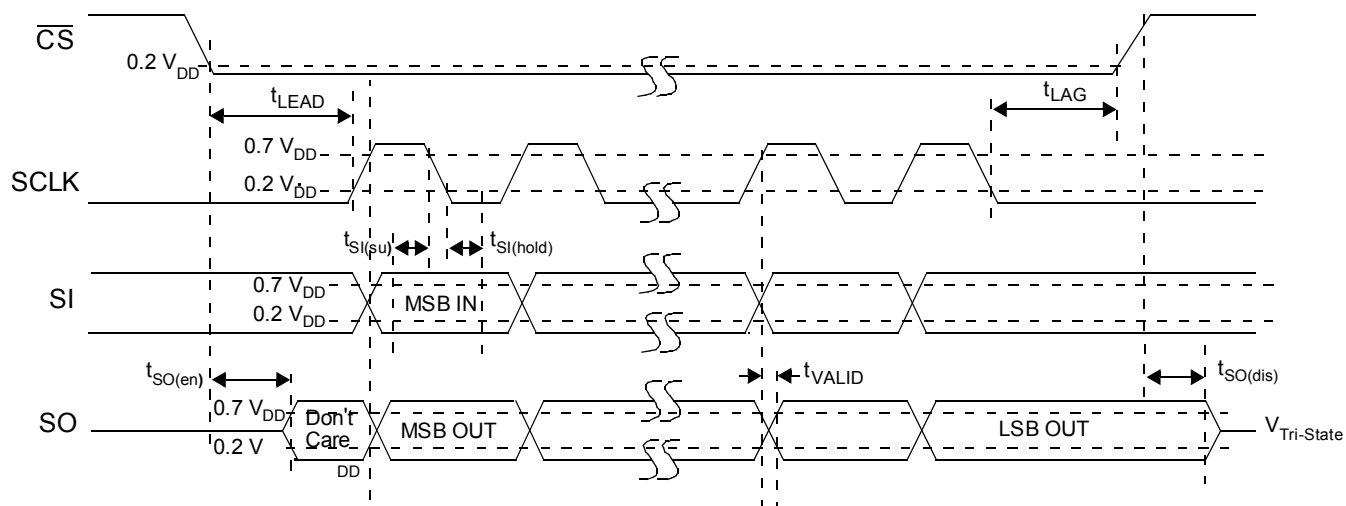

Figure 4. SPI Timing Characteristics
The Serial Input (SI) pin is used to enter one of seven serial instructions into the 33999. SI SPI bits are latched into the Input Shift register on each falling edge of SCLK. The Shift register is full after 24 bits of information are entered. The 33999 operates on the command word on the rising edge of \overline{CS} . To preserve data integrity, exercise care to not transition SI as the SCLK transitions from high-to-low state (see Figure 4, page 9).